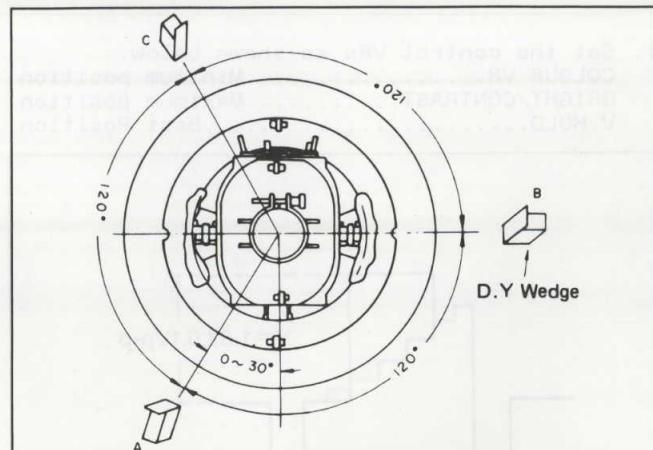

Figure E13
6. Remove the DY wedges in Figure E13 and slightly tilt (do not rotate) the deflection yoke horizontally and vertically to obtain good overall convergence.
7. Secure the deflection yoke by reinserting the wedges as shown in Figure E13.
1. Wedge A shown in Figure E13 should be fixed within a range of 0 degrees~30 degrees to the left of the vertical line as shown.